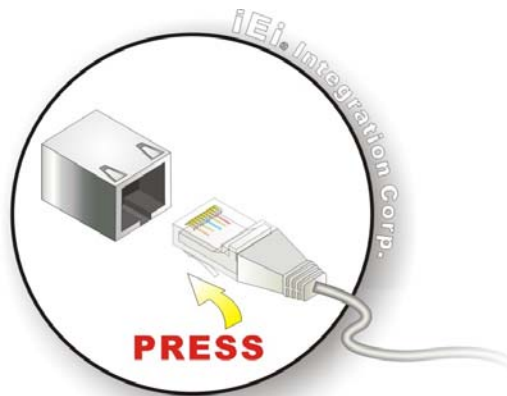

Figure 3-6: LAN Connection
Step 2: **Align the connectors.** Align the RJ-45 connector on the LAN cable with the RJ-45 connectors on the AFL3-W07A-BT. See **Figure 3-6**.